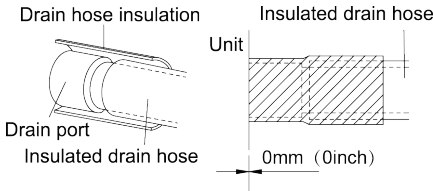

Fig. 4.26
- (1). Be sure to insulate where the drain port and the drain hose is connected (Fig. 4.26).